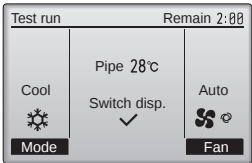

Fig. 7-5
- ① Press the  button to go through the operation modes in the order of "Cool" and "Heat". (Fig. 7-5)
- ② Press the  button and open the Vane setting screen.